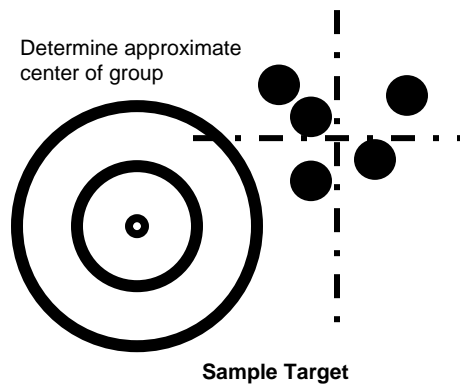

Figure 2-5: Determine approximate center of group
3. Determine the approximate center of the group (Figure 2-5).